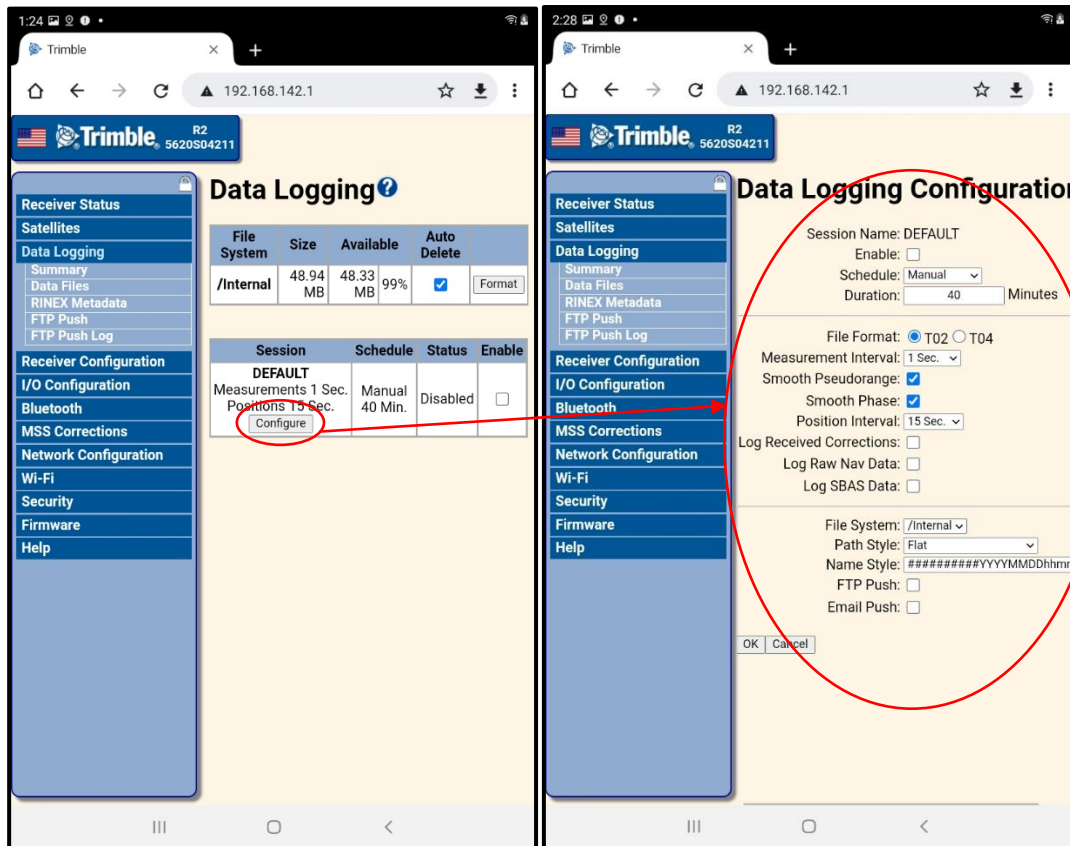

Figure 28. Figure showing Trimble R2 Data Logging Session Configuration workflow with red circles and arrows showing the workflow.
b. Configure Session Settings (Figure 28)